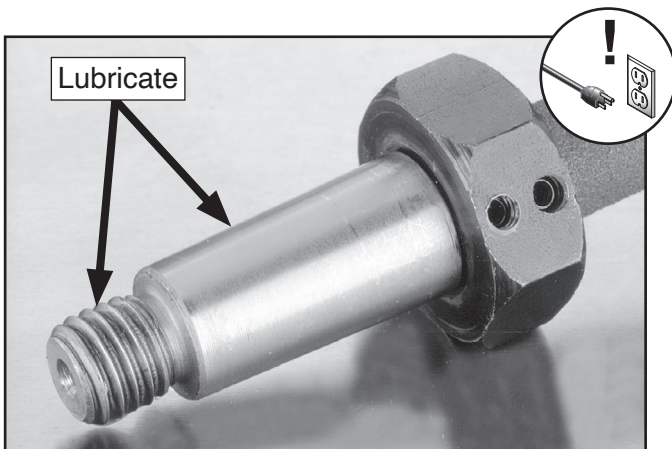

Figure 26. Spindle threads.
3. Lubricate threads and shaft shown in **Figure 26** with light oil.